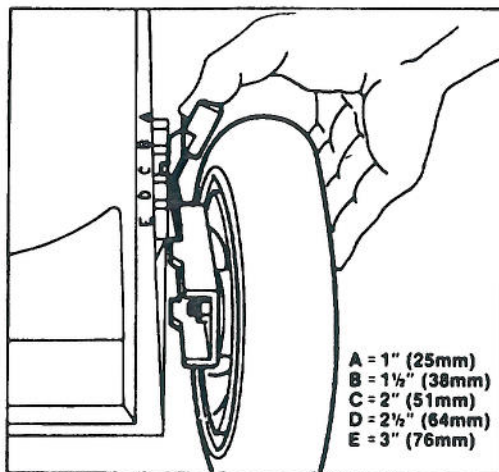

Figure 12
Five letters cast into the housing represent each graduated increment (Fig. 12).
2. For easier adjustment, lift housing up so wheel is off ground. Squeeze adjusting lever toward wheel and move them to desired setting (Fig. 12). Assure pin on adjusting lever engages notch in housing. Adjust all wheels to the same setting.